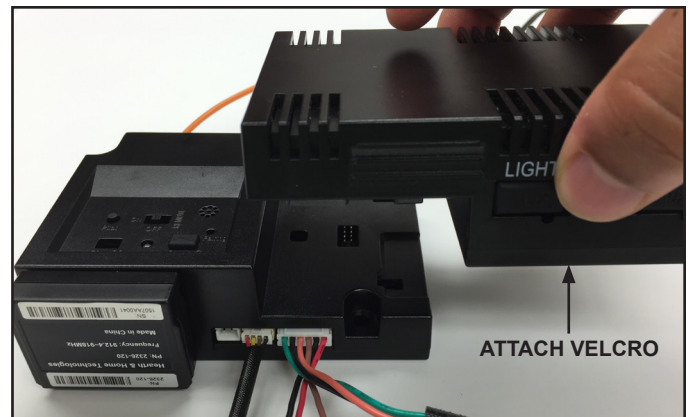

Figure 3. Connecting IFT-ACM and IFT-ECM
5. Attach velcro included with the IFT-ACM to the bottom of the ACM. See Figure 3.
6. Connect the IFT-ACM to the IFT-ECM by aligning the pins and tabs and pushing the IFT-ACM into the IFT-ECM until both tabs latch in place. Ensure the IFT-ECM and IFT-ACM are aligned with each other and fastened securely. See Figure 3.